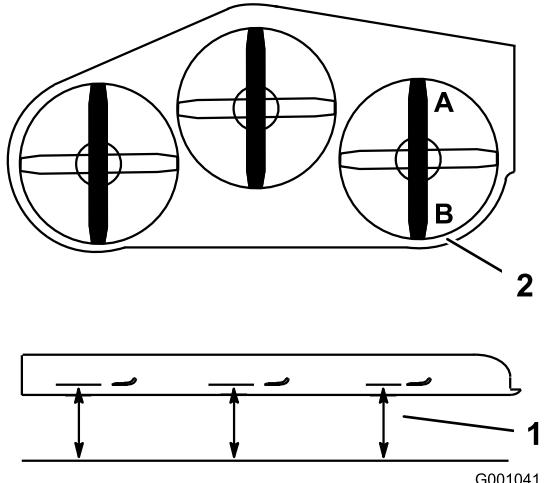

Figure 70
1. Position the right blade front-to-rear (Figure 70).
2. Measure the right blade at the **A** location, from a level surface to the cutting edge of the blade tip (Figure 70).
4. Measure the right blade at the **B** location, from a level surface to the cutting edge of the blade tip (Figure 70).
6. The mower blade should be a 1/4 to 3/8 inch (6 to 10 mm) lower at position **A** than at position **B** (Figure 70). If it is not correct, proceed to the following steps.